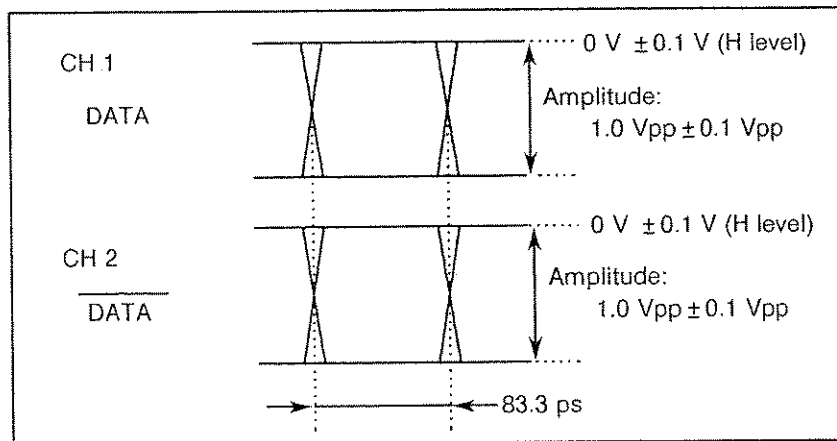

Figure 8-14- DATA, $\overline{\text{DATA}}$ Output Waveform (TO 0V, $f = 12000$ MHz)
- (8) Confirm that the waveform is eye patterns as shown in Figure 8-14.